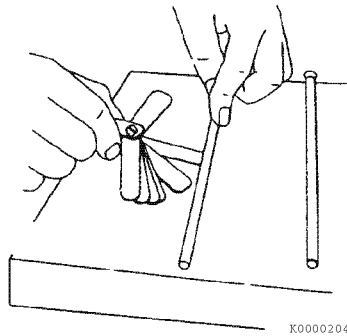

Figure 6-15
3. Use a feeler gauge to measure the gap (Figure 6-15). See *Push Rod* on page 6-7 for the service limit.